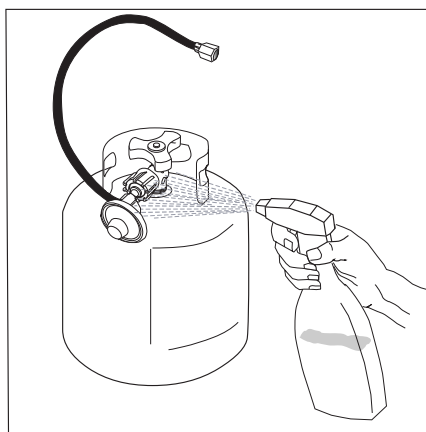

Fig. 5
3. Always use a brush or spray bottle to apply a 50/50 solution of liquid soap and water to all connection points (see Fig. 5) to test for gas leaks. Never use a match or open flame for that purpose.